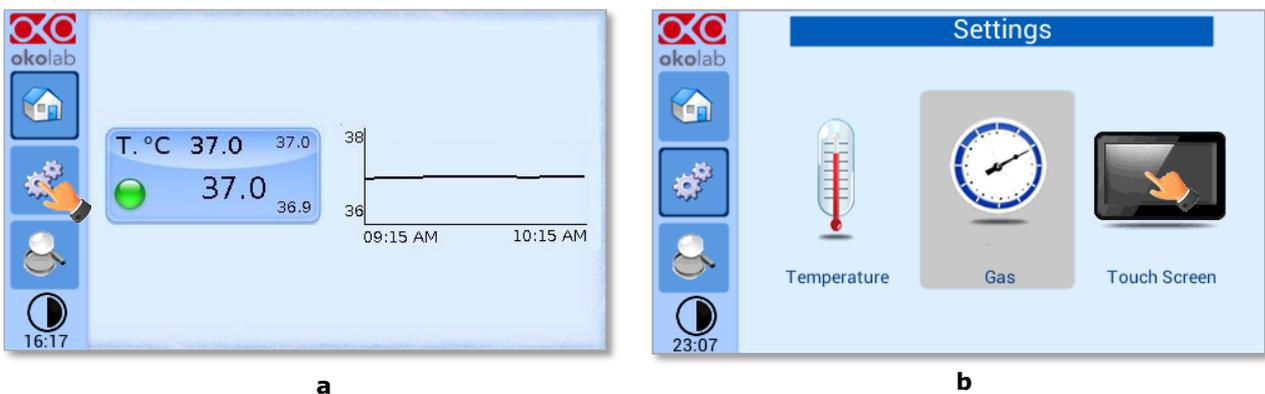

Figure 43 (a) How to enter the setting menu; (b) how to enter the Touch Screen menu
1. Press on the *Settings* icon  (Figure 43, a) and press on the *Touch screen* icon  on the window that opens next (Figure 43, b).